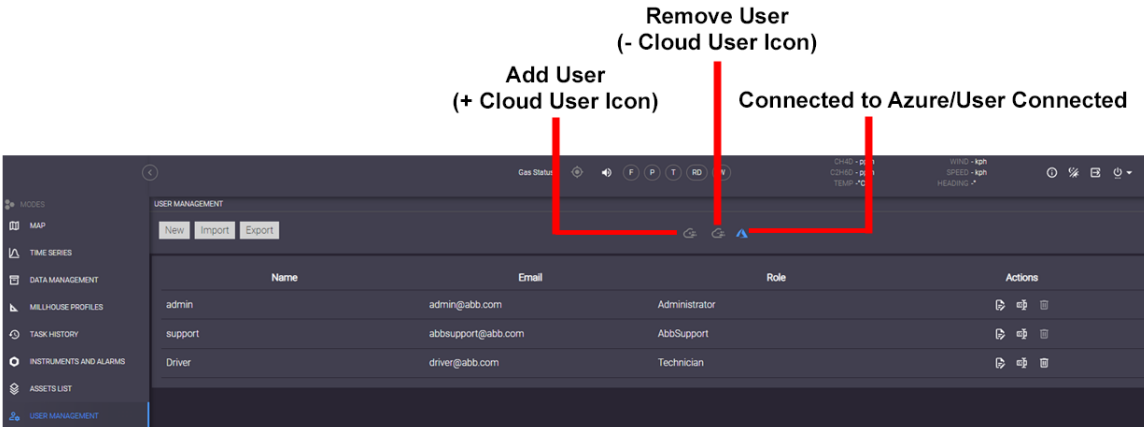

Figure 63 User Management Screen with Azure Connected
- 1 Click the **+ Cloud User** icon (see Figure 63): The *Users Commissioning* dialog-box appears.
- 1 Click the - **Cloud User** icon (see Figure 63): The *Decommissioning Users* dialog-box appears.